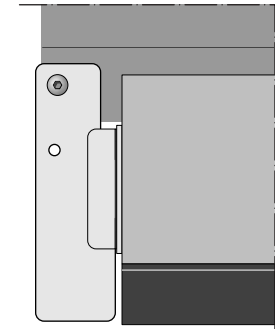

figure 2.3.4
- for Speedroller or speedroller Heavy with M8 flange headed screws (see fig. 2.3.4).